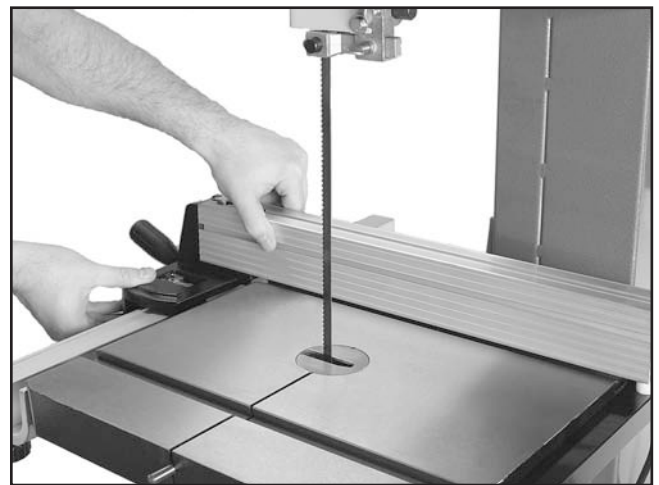

Figure 12. Installing fence onto rails.
16. Pull the fence handle up and place the fence on the front fence rail, as shown in **Figure 12**.